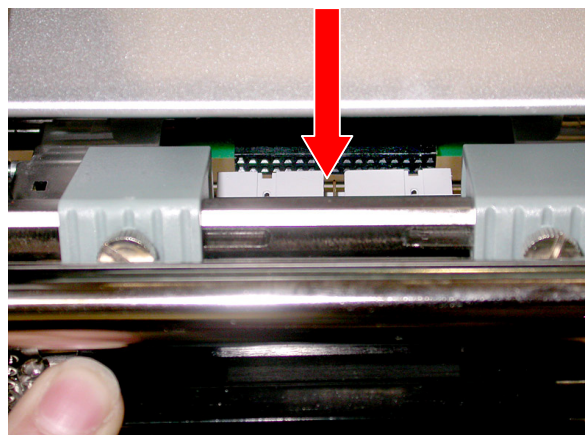

Fig. 1
4. To replace the printhead, line up the plug (**Fig.1**) and side guides (**Fig.2**) of the printhead assembly and gently insert the printhead back into its carriage.